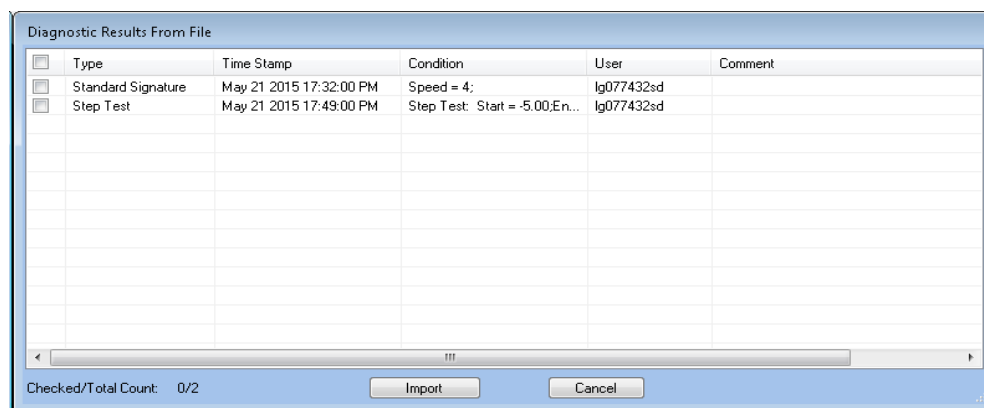

Figure 101 - Diagnostic Results From File
2. Select the file and click **Open** and Figure 101 appears.